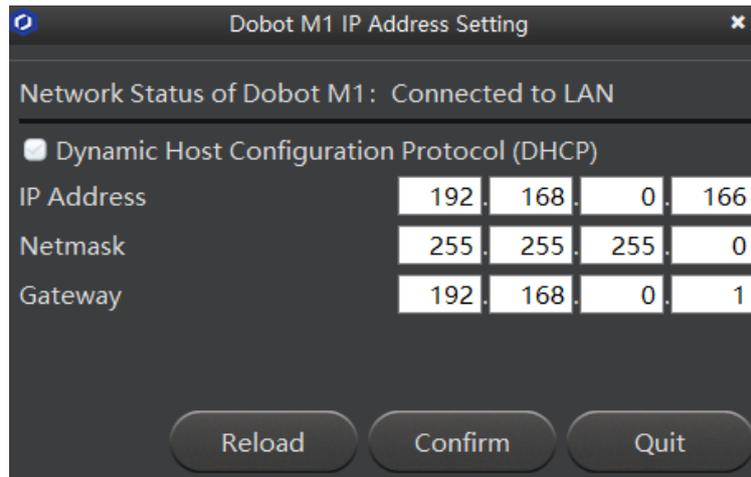

Figure 5.13 IP address of Dobot M1
**Step 3** Click **Reload**, you can check the IP address of Dobot M1, as shown in Figure 5.13.